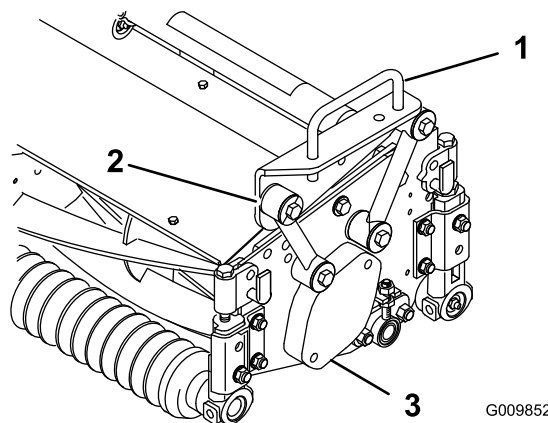
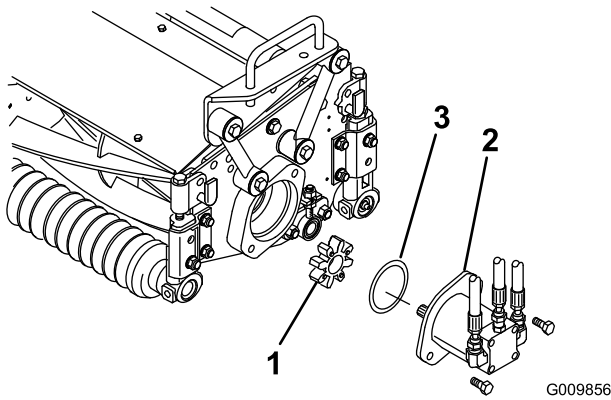

Figure 4
Figure 8
2. Position a carrier frame onto each cutting unit, aligning the mounting holes with the mounting links (Figure 4).
3. Secure each mounting link to the carrier frame with a bolt (3/8 x 2-1/4 inches), 2 washers, and a locknut, as shown in Figure 4. Position a washer on each side of the link when mounting. Torque to 31 ft-lb (42 N-m).
- Remove the bearing housing cover (Figure 4) from the inside end of the right-hand cutting unit. Install the cover and gasket (supplied with the cutting unit) on the outside end. Locate the spider coupling (Figure 8) shipped in the bearing housing.
3. Insert the O-ring (supplied with the cutting unit) on the flange of the drive motor (Figure 8).
4. Mount the motor and the spider coupling to the drive end of the cutting unit and secure them with 2 bolts provided with the cutting unit (Figure 8).